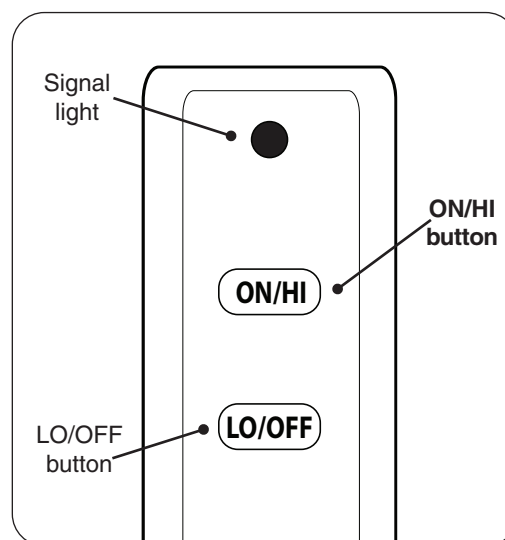

Fig. 31-1 Remote transmitter detail
2. Locate the remote transmitter and press and hold the **ON/HI** button (see Fig. 31-1). The ignition sequence will begin.